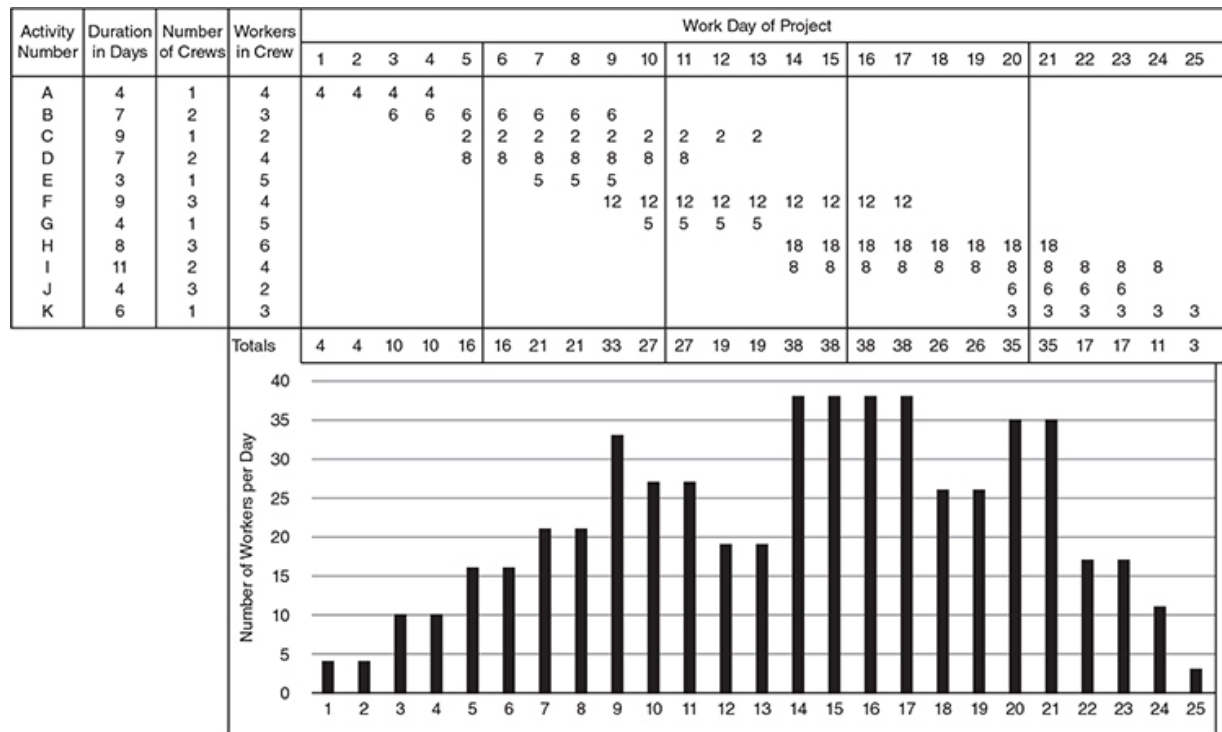
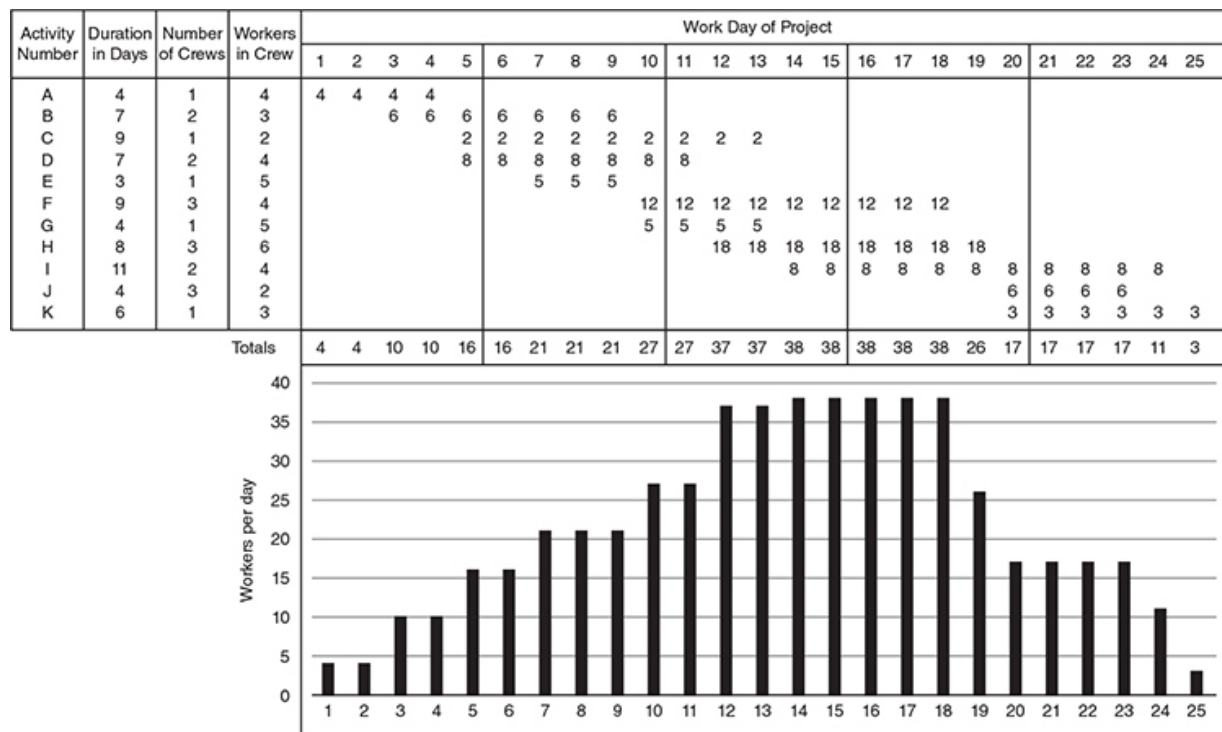

FIGURE 10-14 Irregular distribution of labor.
FIGURE 10-15 Labor distribution after starting Activity F 1 day later and Activity H 2 days earlier.
(a) Evaluate the allocation of labor by preparing a **histogram of the distribution of labor**, similar to Figure 10-14. The histogram is shown on Page 249.
(a) 通过制作劳动分配的直方图，类似于图 10-14，来评估劳动分配。直方图见第 249 页。
(b) Assume that the **completion date of 25 working days** cannot be changed and that the **start of Activity A** and **finish of Activity K** cannot be changed. The **start time for the remaining activities** can be **delayed a maximum of 2 days**. Reschedule the project to **reduce any irregularity in the distribution of labor**, as illustrated in Figures 10-14 and 10-15. The **rescheduled histogram** is shown on Page 249.
(b) 假设 **25 个工作日的完成日期**不能更改，并且活动 **A** 的开始时间和活动 **K** 的完成时间不能更改。其余活动的开始时间最多可以延迟 **2 天**。重新安排项目进度以减少劳动分配中的不规律性，如图 10-14 和图 10-15 所示。重新安排后的直方图见第 249 页。
The construction plan shows the desired sequence of work. However, to be workable, the plan must also show the distribution of resources, such as the required labor for each craft on the job. The demand for labor should be uniformly distributed for each craft on the project, to prevent irregularities. The construction resource plan can be used as a tool to ensure a relatively uniform distribution of labor on the project. Resource loading the construction schedule also helps to identify and to prevent an over concentration of work in a particular area of the jobsite. Figure 10-14 is a simple bar chart for a project, showing each work activity, number of crews, and number of people in the crew for all labor in the project. The lower portion of Figure 10-14 shows irregularity in the distribution of workers per day during the middle of the project.
Figure 10-15 illustrates the same project as Figure 10-14, except Activity F is started 1 day later and Activity H is started 2 days earlier. The lower portion of Figure 10-15 shows a relative uniform distribution of labor by making these two minor adjustments in the project plan. A similar analysis can be made for each craft of labor to ensure uniform distributions of workers on the project. A resource allocation for a particular craft typically has a flat appearance on the graph, whereas a resource allocation for all crafts typically has a bell-shaped graph as shown in Figure 10-15.
- A.) Evaluate the allocation of labor by preparing a histogram of the distribution of labor, similar to Figure 10-14. The histogram is shown on Page 249.
- B.) Assume that the completion date of 25 working days cannot be changed and that the start of Activity A and the finish of Activity K cannot be changed. The start time for the remaining activities can be delayed a maximum of 2 days. Reschedule the project to reduce any irregularity in the distribution of labor, as illustrated in Figures 10-14 and 10-15. The rescheduled histogram is shown on Page 249.